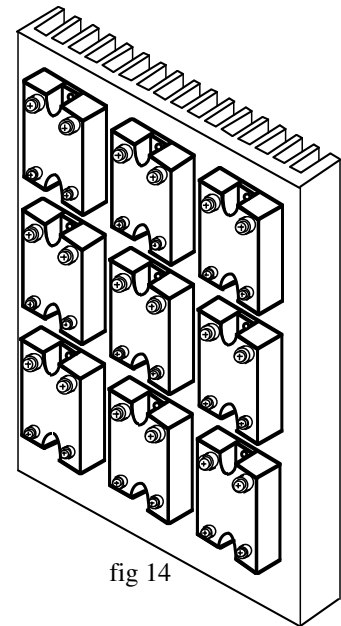

fig 14
e) Mounting several relays on one heatsink (fig 14) Thermal constant notion.